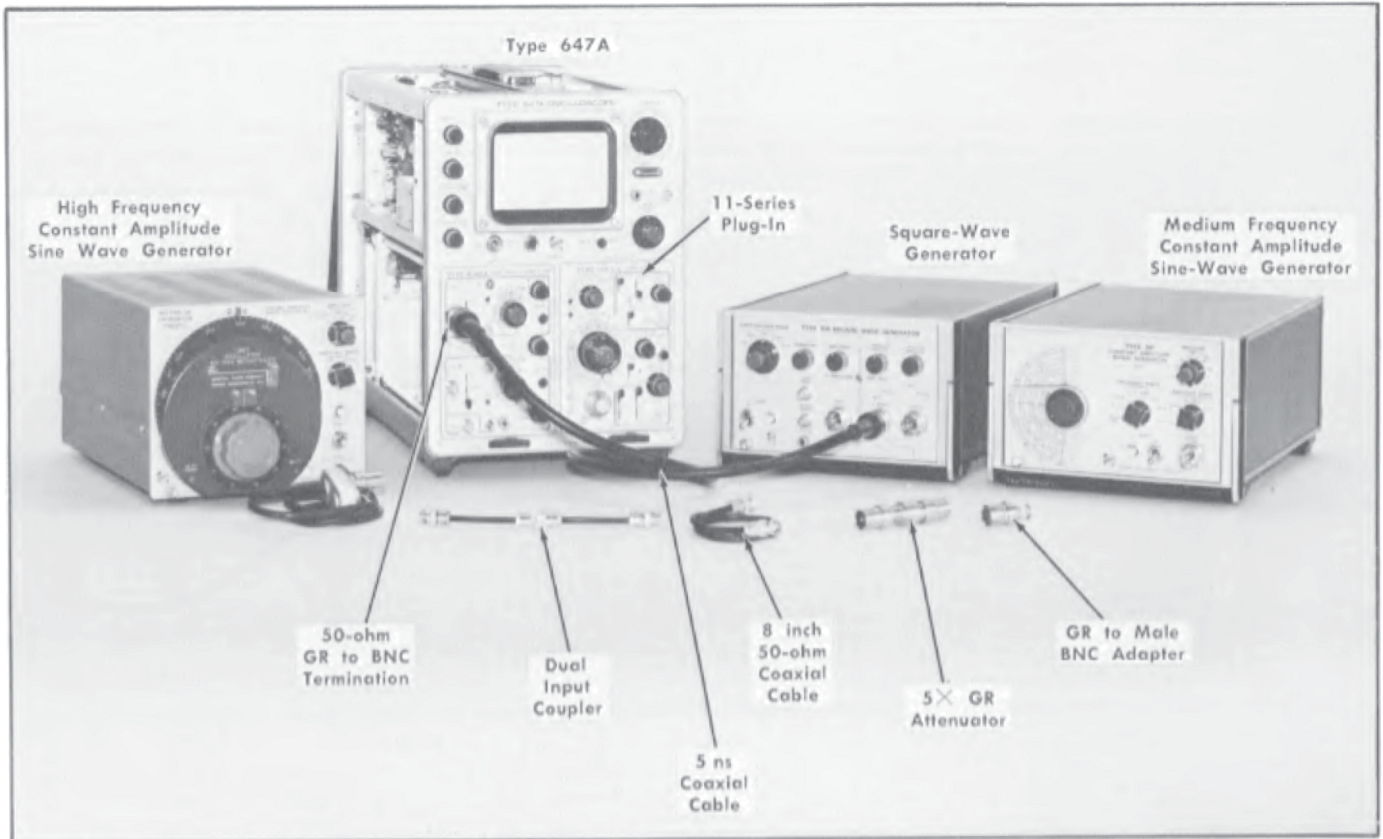

Fig. 6-11. Initial test equipment setup for steps 25 through 30.
25. Adjust High Frequency Transient Response ❶
- b. Test equipment setup is shown in Fig. 6-11.